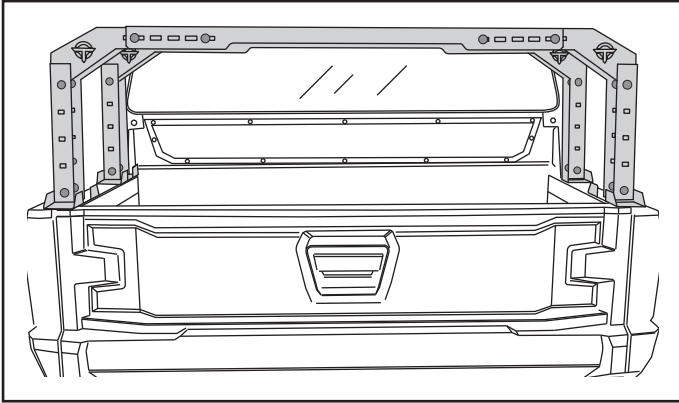

Figure 4. Frame mount – rear view
5. Install one frame assembly to the UTV at the predetermined location. Tighten the bed rack mounting hardware to the recommended specifications. Repeat the process for the second frame assembly (figures 4 and 5).